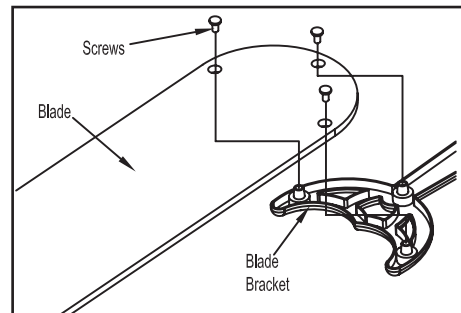

Figure 13
1. Attach blade to blade bracket using the screws provided as shown in figure 13. Please note that the rubber washers are pre-attached to the blade bracket. Insert a screw into the bracket. Repeat for the two remaining screws.